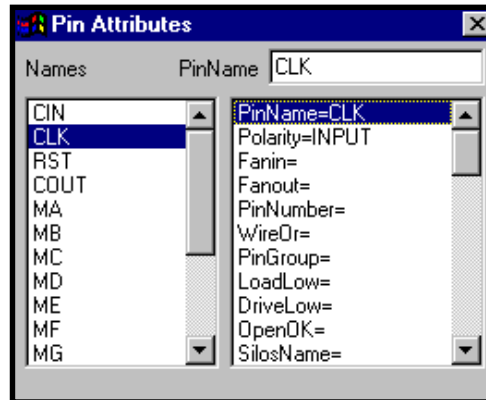

Figure 5-2. Pin Attributes Dialog Box
1. Select the **Edit** ⇒ **Attribute** ⇒ **Pin Attribute** command to display the Pin Attributes dialog box (Figure 5-2).